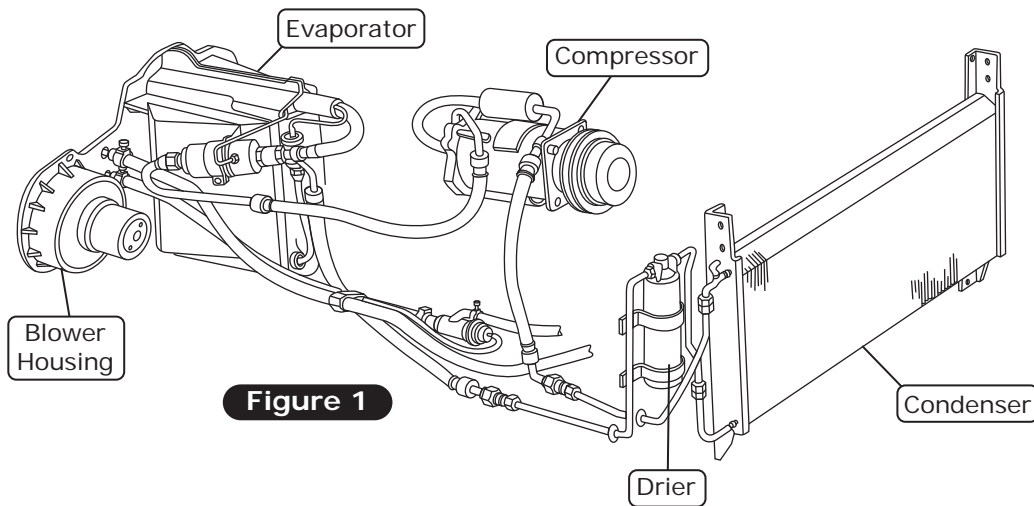

Figure 1
4. Remove the OEM condenser and drier (discard) (See Figure 1, below).
8. Remove the OEM heater hoses, A/C hoses and hardlines, vacuum actuator (air inlet valve) (discard) (See Figure 1 and 1a, below).